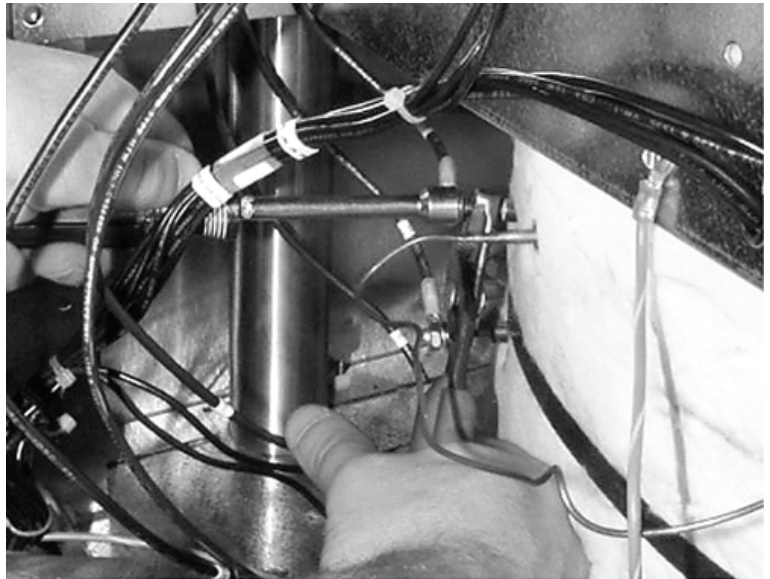

Figure 23
- D. Thread the nuts, removed in step 5, onto the heater terminals and tighten using a 3/8" nut driver and channel locks, to avoid twisting off heater leads (see figure 23).